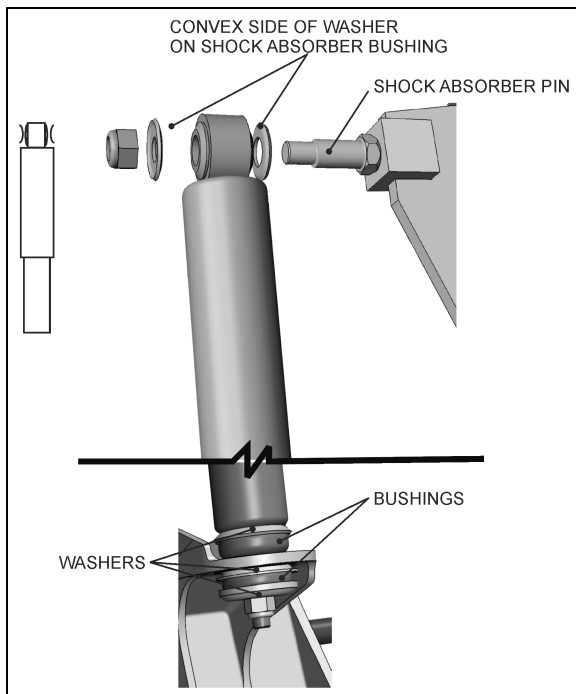
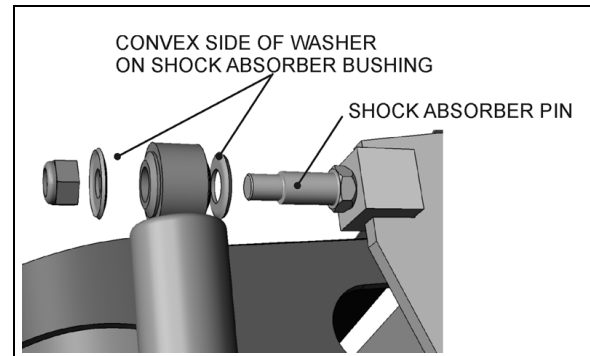

FIGURE 42: SHOCK ABSORBER 16008
FIGURE 43: TYPICAL SHOCK ABSORBER SETUP 16009
Double-action, telescoping-type shock absorbers ensure a smooth ride and enhance vehicle stability on the road. All shock absorbers are eye-type mountings. The tag axle is provided with two shock absorbers while the drive axle is provided with four of them (Figure 42 & Figure 43).
4. Remove nuts and washers from shock absorbers on upper and lower mounting pins, taking care to identify the inner and outer washers to ease reinstallation. Refer to figure 42 for details.
7. Place the inner washers (with washer convex side facing the shock absorber rubber bushing) on each shock absorber pin (Figure 43).